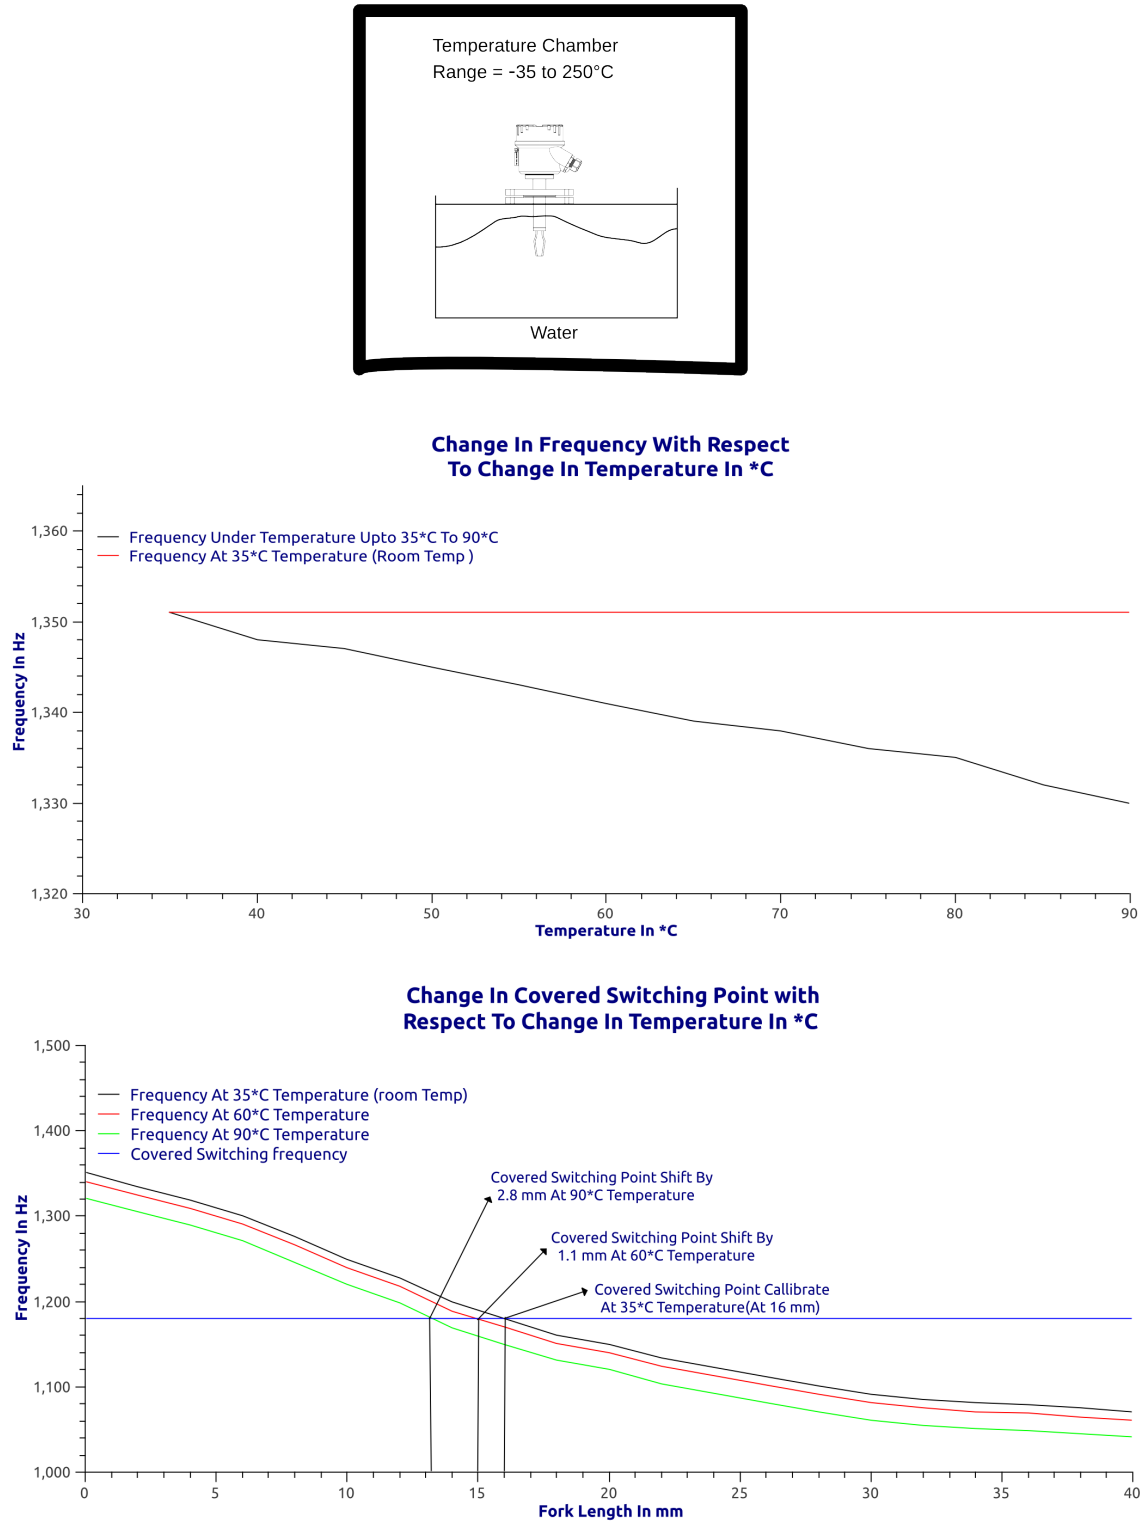

Figure 11: Influence of Process Temperature on Switching Point
2. **Process Temperature** - The influence of temperature on switching point of the device is described in Figure 11.